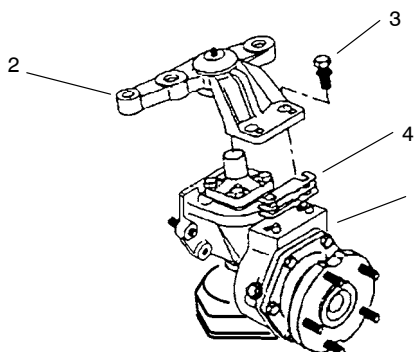

Figure 5
4. Remove the axle case support mounting screws, the axle case support, and the support shims (Fig. 5).